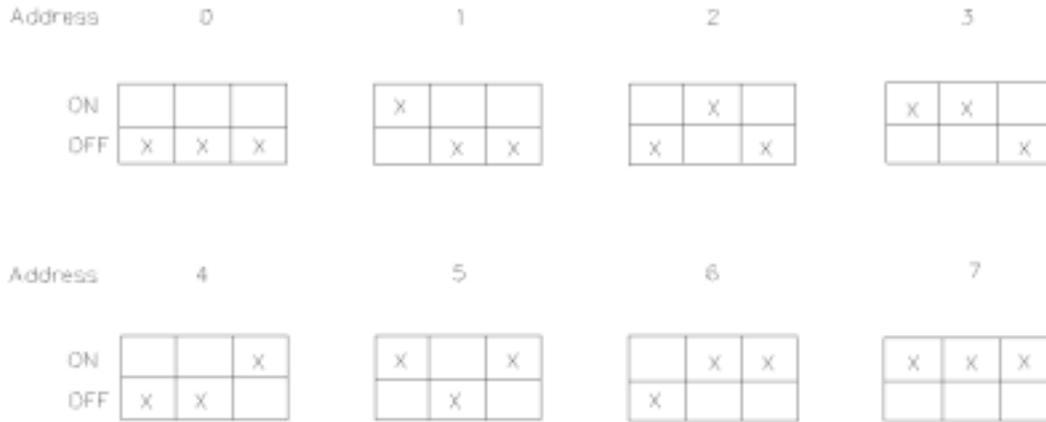
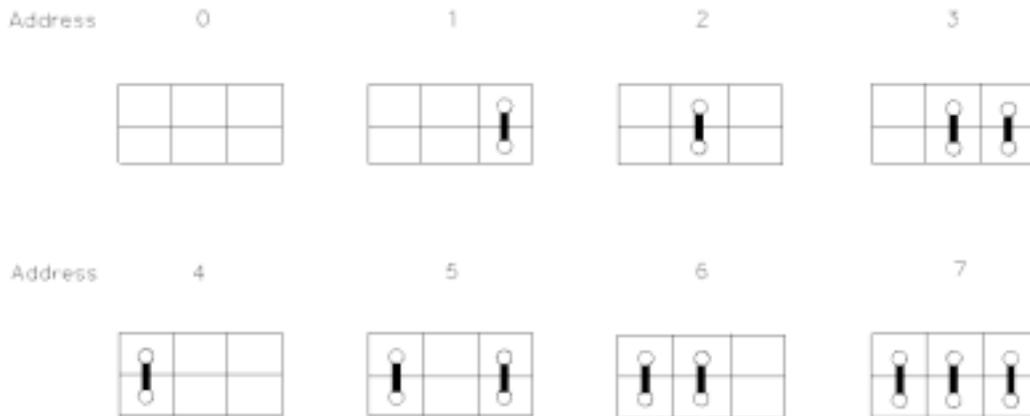
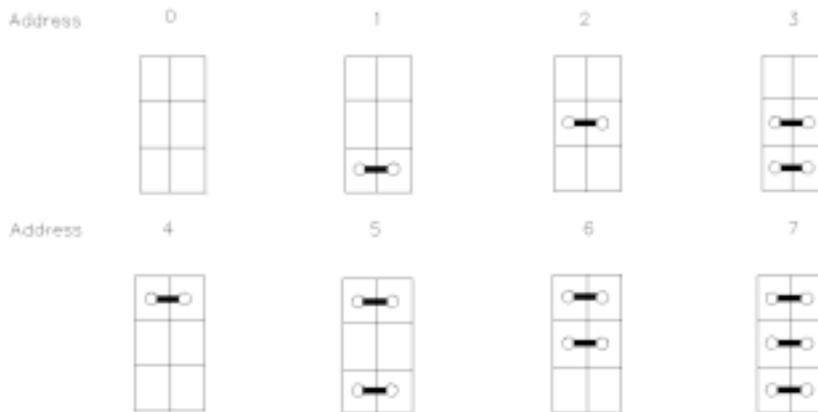

Figure 2-5
Figure 2-3
Figure 2-4
- Using the appropriate method for your configuration, set the SCSI ID to the proper address for the available position in the EXPERT display. Figure 2-3 shows the ID settings for the DIP switches on the DB or DS card. Figure 2-4 shows the jumper settings for the DR card, while Figure 2-5 shows the jumper settings for DS cards with remote connectors.
Table 2-1 shows the pin assignments for the remote connector. Note that the switch settings for the remote connector should emulate the jumper positions shown in Figure 2-4 and Figure 2-5.